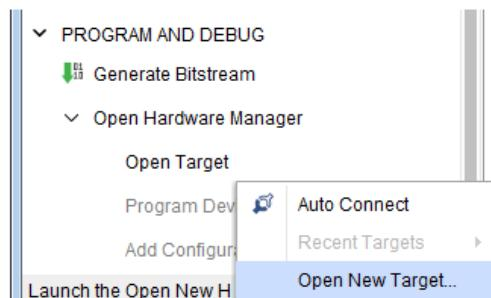

Figure 10.35: Open Target command
- Use the **Open Target** command, under the **Open Hardware Manager** in the **Program and Device** section, to open new or recent hardware targets, see Figure 10.35.